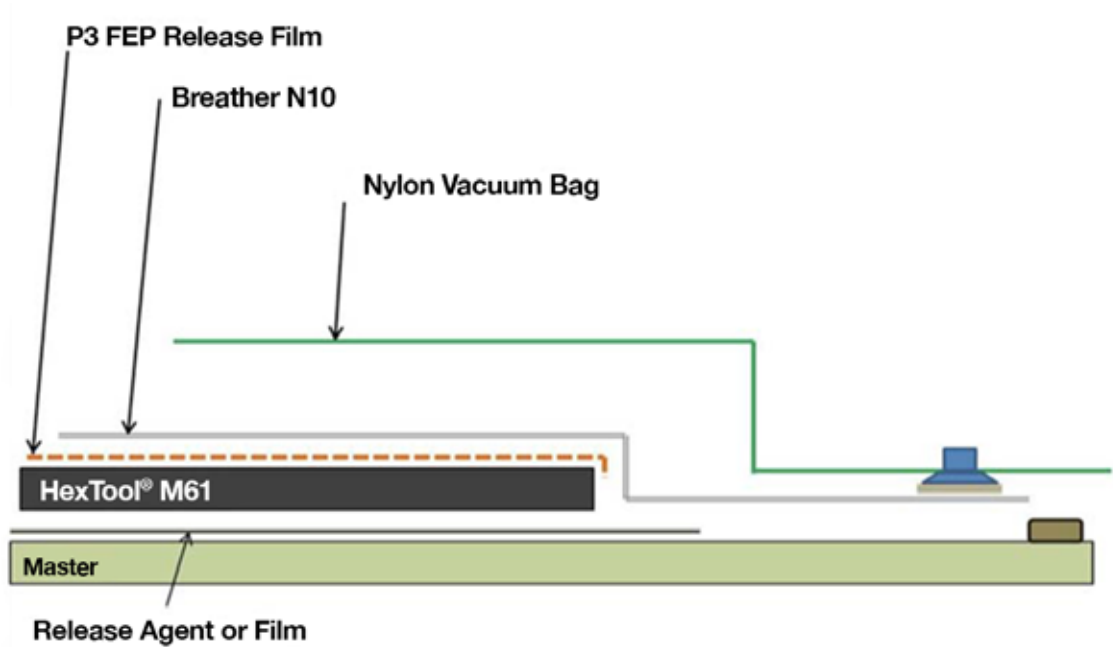

Figure 12
4. Bagging scheme for HVD shown in Figure 12.